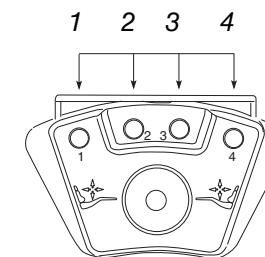

Figure 5. Foot control
3. Choose preset button beep beep beep indicates chair position set for selected button. Repeat process for each preset button (Figure 5).
4. More than three (3) beeps indicates a program failure for that preset button, repeat steps 2 and 3.